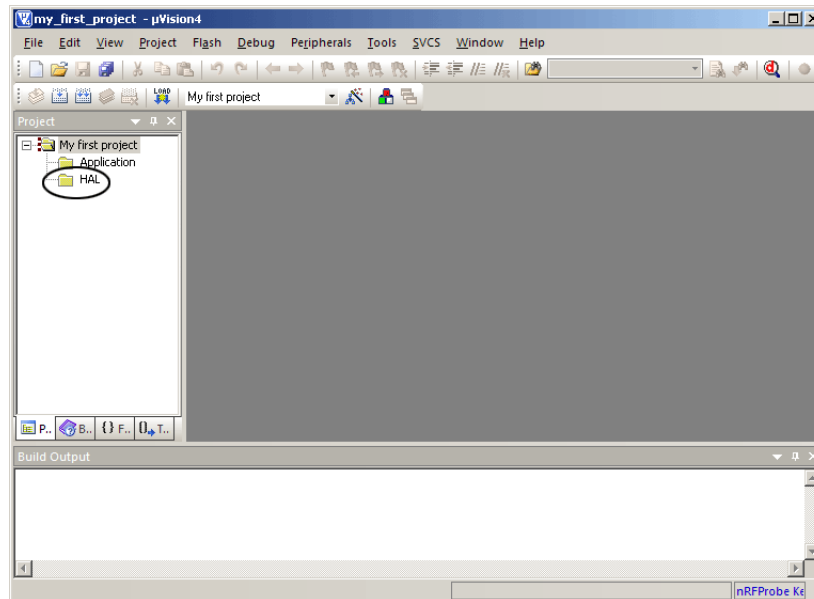

Figure 17. Project set up and ready for source code
24. You can right-click in the Project tree view to add and also rename some of the folders to give them more appropriate names. See encircled area in Figure 17. for illustration.